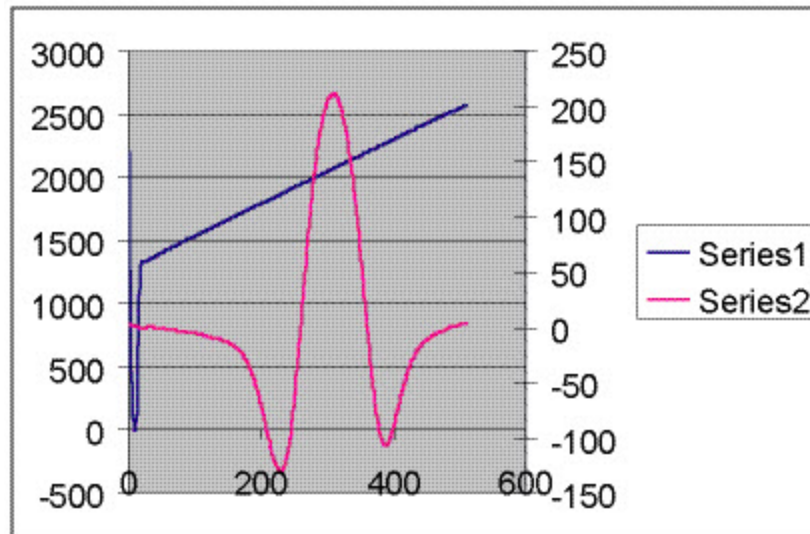

Figure 3-11 Data file plot in Excel
6. Choose the **X-Y (Scatter)** chart type and the **Smoothed Lines Without Markers** sub-type. Click **Finish** to display a graph of the spectrum, as shown in Figure 3-11 below.